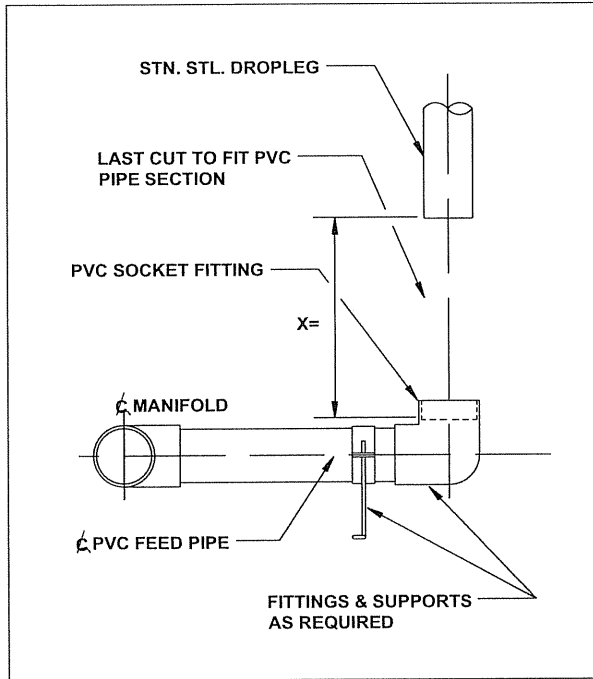

Figure 11
A) With a heavy body solvent cement, field glue all required PVC feed pipe and fittings up to the last “cut to fit pipe section” which mates to the stainless steel upper dropleg section. See Figure 11 and the erection drawings. Install feed pipe supports as required and shown on the erection drawings.
B) Measure the distance “X” from the end of the installed stainless steel upper dropleg to the insertion depth of the PVC socket fitting. See Figure 11.